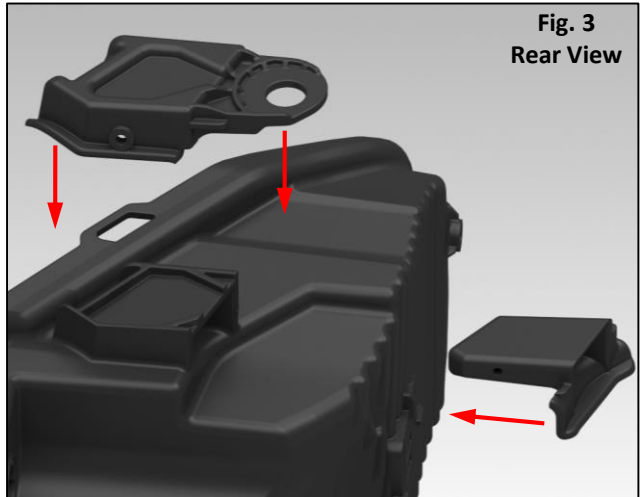

Fig. 3
**2. Dry-Fit:** Dry-fit the repair tab(s) **Fig. 3**. If the tab fits without resistance and makes a flush fit to the housing, trimming is complete. If the tab resists installation re-trim the damaged tab, removing only small amounts of material. Repeat the Dry-Fit steps until the proper fit is achieved.